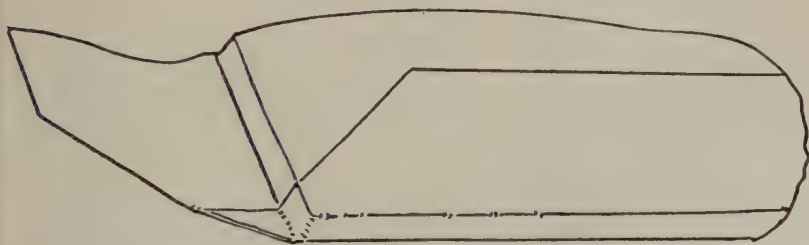

FIG. 73—NICKING-IN COVER TURN-INS
6. Now "nick-in" the four paper corners like Fig. 73 and turn the end flaps over onto board like the two long edges.